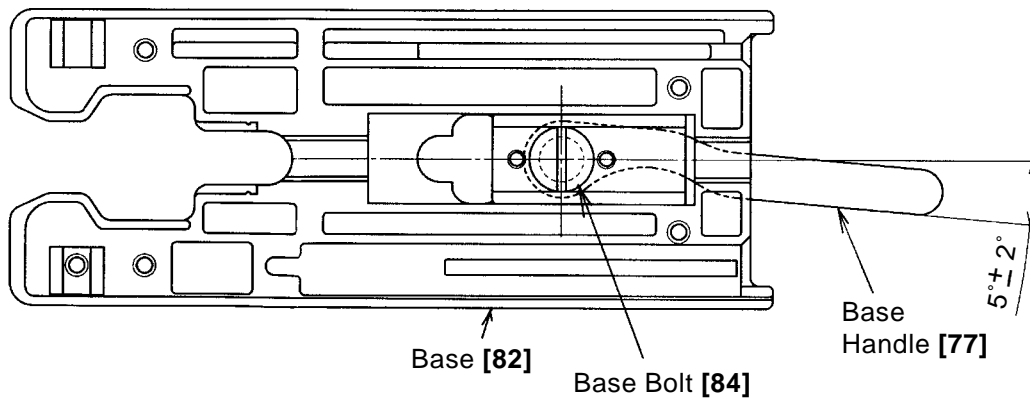

Fig. 19
(9) Fix the Base Handle [77] by tightening the Base Bolt [84] as shown in Fig. 19.